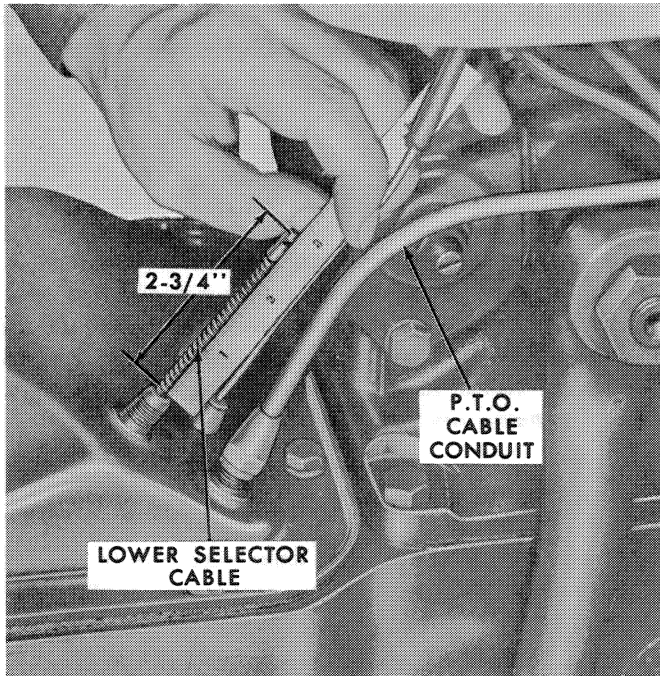

Figure 37
1. Install the lower selector cable into the cover to obtain a length of 2-3/4" as shown in Figure 37. The distance is determined from the top of the fitting to the upper side of the notch. This dimension synchronizes the selector to the control valve when the valve is in the park (P) position.
4. Connect the selector cable to the lower cable extending from the cover and shift the selector lever to park (P) to bring the conduit to the fitting on the cover.